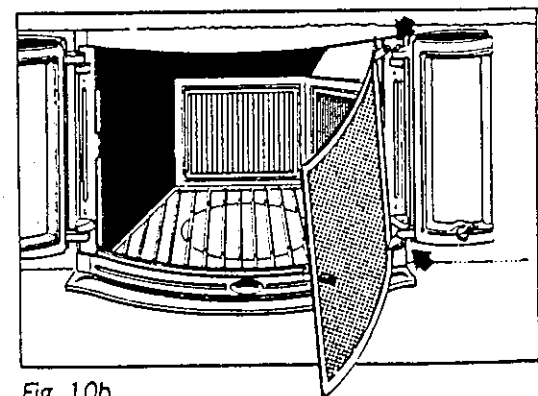

Fig. 10b
**Spark screen for the harmony front. Fig. 10b**